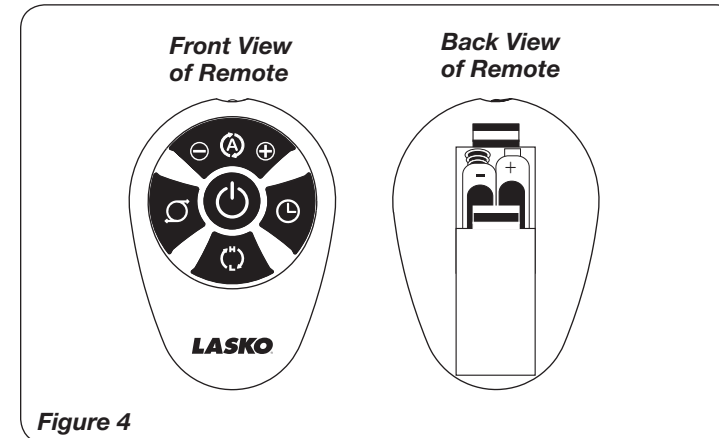

Figure 4
REMOTE CONTROL (Figure 4)
1. Install the two "AAA" batteries supplied. (Figure 4)